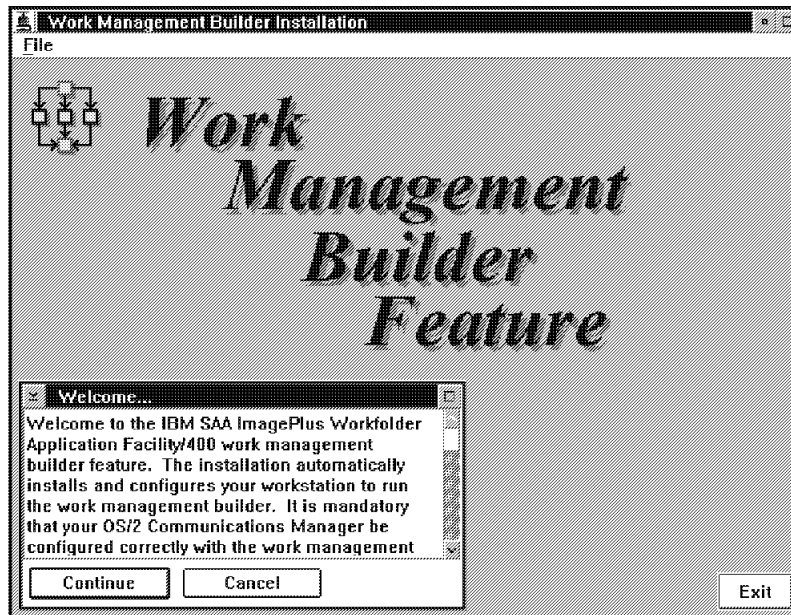

Figure 2. Work Management Builder Installation Window
5. At the OS/2 prompt, type **A:\INSTALL** and press Enter. You see the Work Management Builder Installation window shown in Figure 2 on page 10. The Welcome window is also displayed. The Welcome window contains information you should read before you continue with the installation.
3. At the OS/2 prompt, type **A:\INSTALL** and press Enter. You see the Work Management Builder Installation window shown in Figure 2 on page 10.